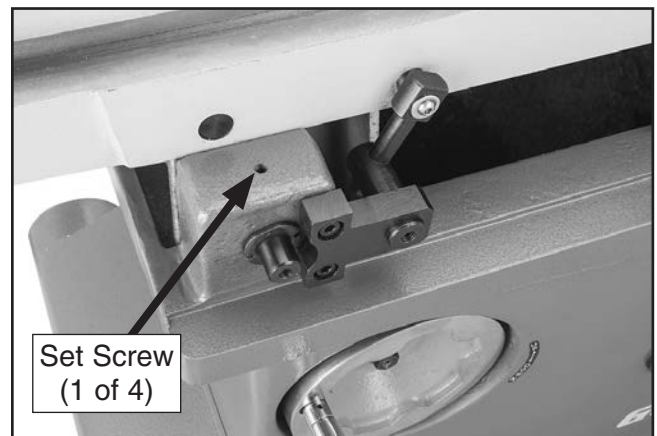

Figure 56. Location of eccentric bushing set screw.
5. Loosen set screw on each eccentric bushing (see **Figure 56**).